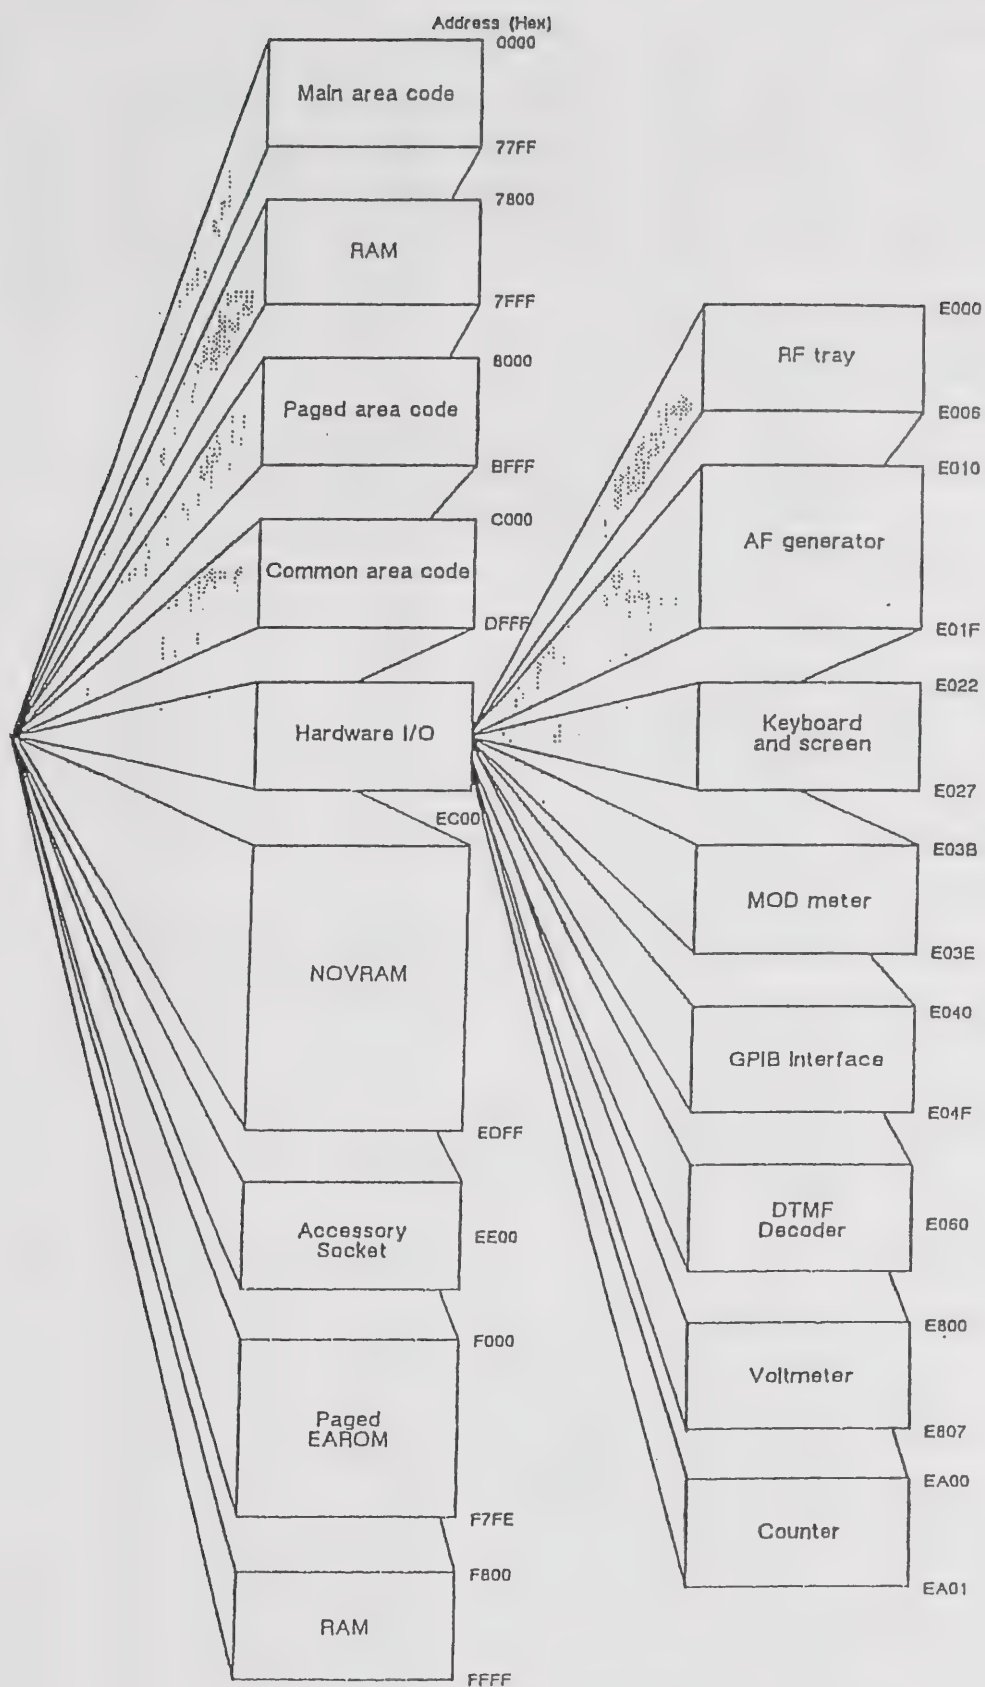

Fig. 5-5 Memory map
- (1) For maintenance purposes, the memory map is shown in Fig. 5-5 (seven pages).
- (2) When replacing EPROMs, note that they are marked A and B and are inserted in the sockets for IC10 and IC9 respectively.